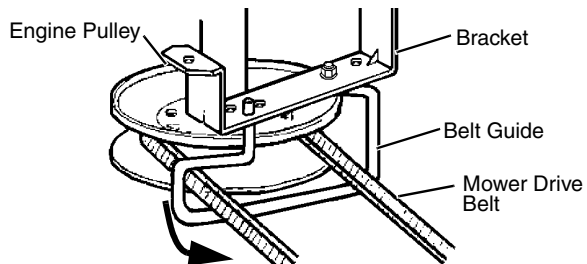
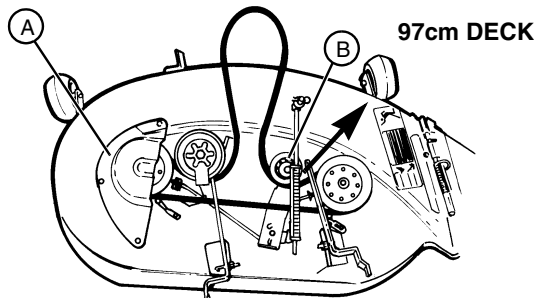
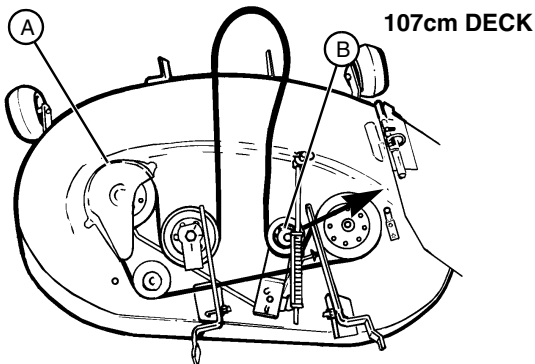
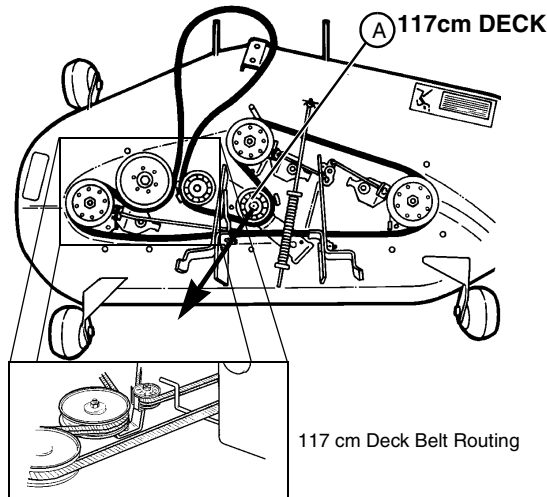

FIG. 38
FIG. 39
FIG. 40
FIG. 41
- Pull down on L.H. side of belt guide and rotate away from engine pulley. (See FIG. 38) Install belt onto pulley and return guide to original position. Insure that the guide is seated into the hole.
97 cm Mower Decks: (See FIG. 38 and FIG. 39)
107 cm Mower Decks: (See FIG. 38 and FIG. 40)
117 cm Mower Deck: (See FIG. 38 and FIG. 41)